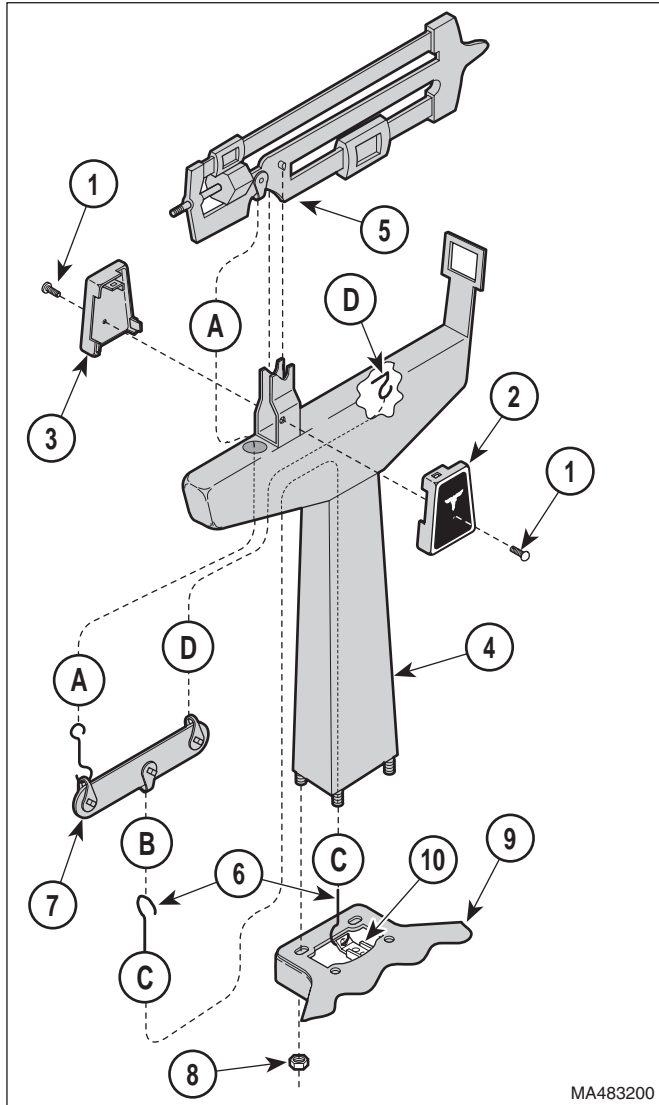
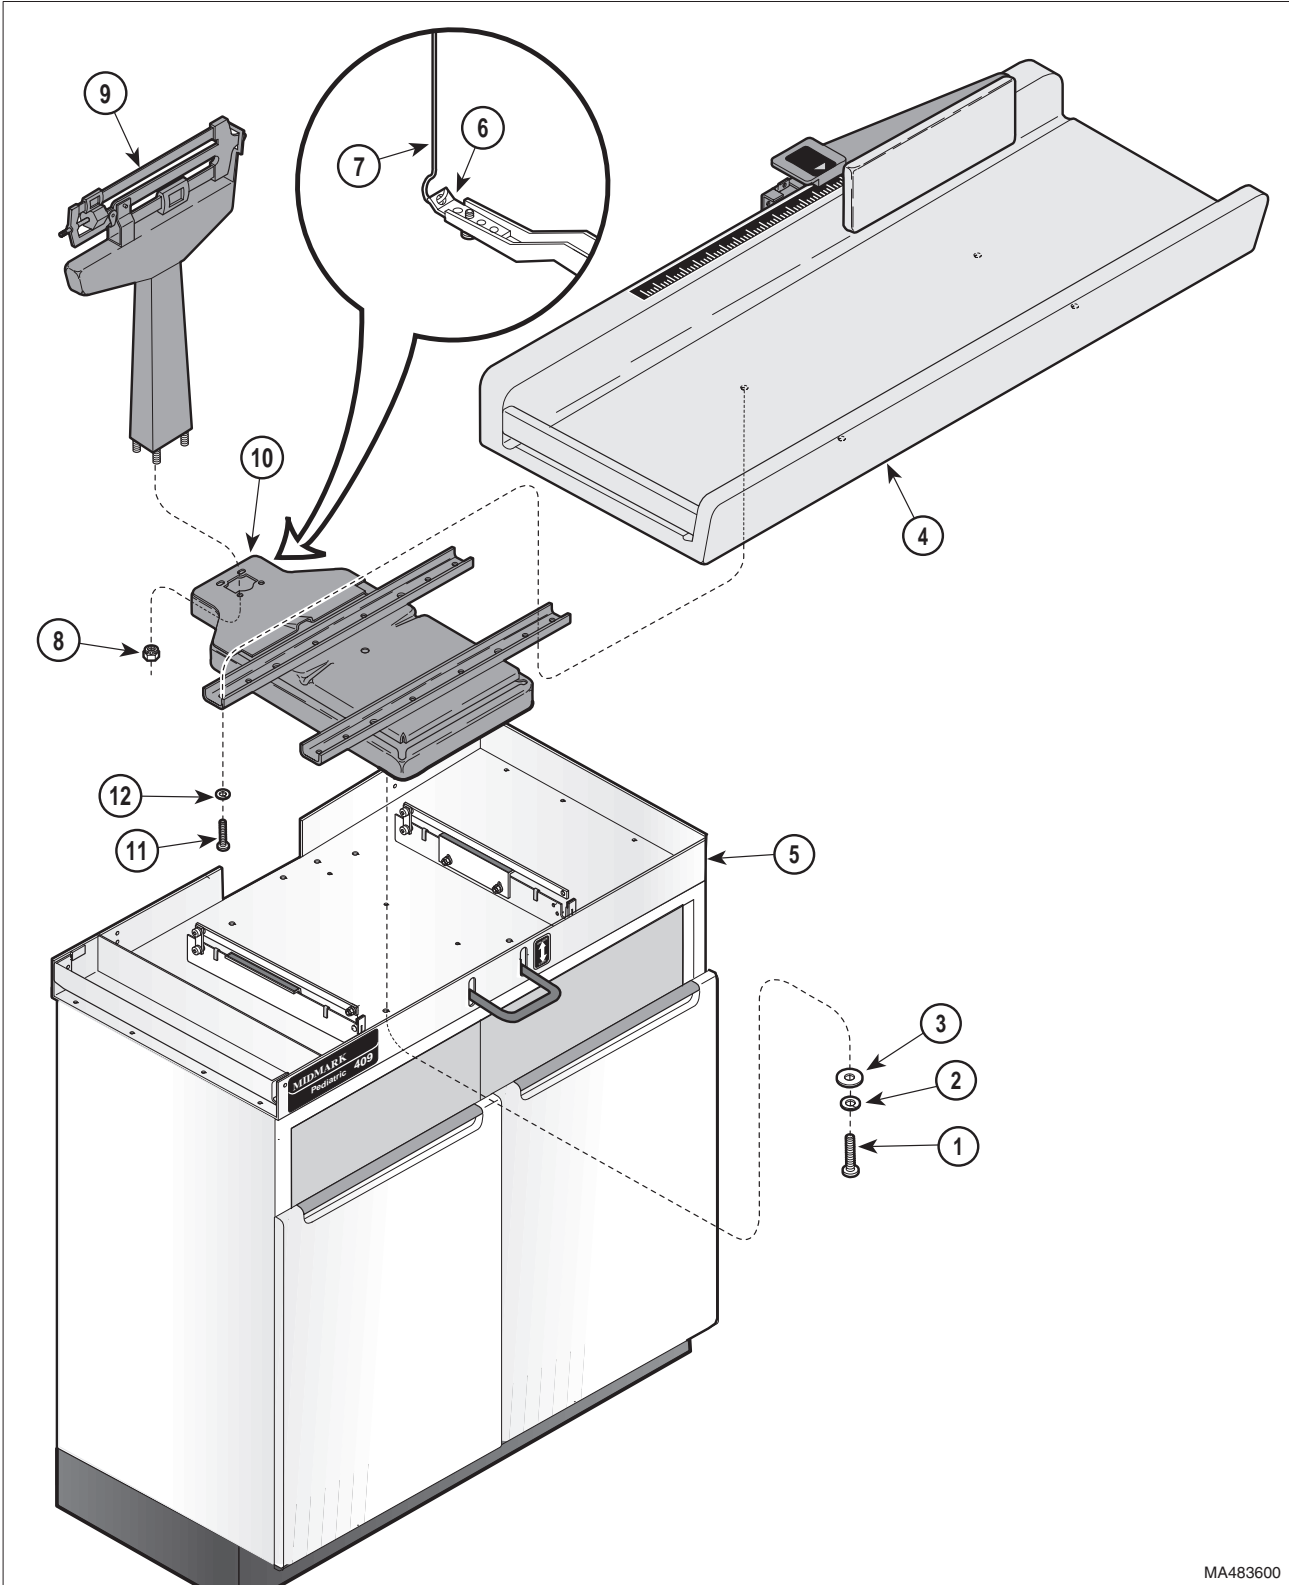

Figure 4-1. Beam Scale Components Removal / Installation
Figure 4-5. Platform Components Removal / Installation
The serial number labels on both the pillar assembly (4, Figure 4-1) and platform base (12, Figure 4-5) must match each other; they are a factory matched pair. If serial numbers **do not match, do not** proceed with beam scale installation, stop and call Midmark Technical Service at 1-800-MIDMARK.
- (1) Remove two screws (1, Figure 4-1), front cap (2), and back cap (3) from pillar assembly (4).
- (2) Disconnect wire loop (A) from beam scale (5).
- (3) Remove beam scale (5) from pillar assembly (4).
- (4) Disconnect wire loops (B and C) and remove connection rod (6).
- (5) Disconnect lever assembly (7) from wire loop (D) and remove lever assembly.
- (6) Remove four locknuts (8) and pillar assembly (4) from base assembly (9).
- (2) Remove four screws (1, Figure 4-5), lockwashers (2), washers (3), and upholstered table top (4) from base (5).
- (3) Lift up slightly on calibrating arm (6) and then disconnect wire hook (7) from calibrating arm.
- (4) Remove four nuts (8) and beam scale assembly (9) from platform (10).
- (5) Remove four screws (11), lockwashers (12), and platform (10) from upholstered table top (4).
- (1) Install platform (10, Figure 4-5) on upholstered table top (4) and secure with four lockwashers (12) and screws (11).